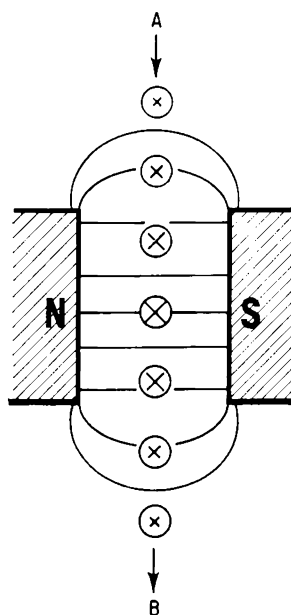

Fig. 140
If a wire is pushed down through a magnetic field from A to B as shown in Fig. 140, the electrons in the wire are moving, on the average, at right angles to the field lines. Successive positions of the wire are indicated. We have already seen that whenever electrons move across a magnetic field a *force* is exerted on them. This force on the electrons acts at right angles to the field (NS) and at right angles to the movement of the wire (AB). In Fig. 140 the electrons are pushed into the paper, that is, along the wire. The size of each cross represents the magnitude of the induced e.m.f. If this wire is part of a complete electrical circuit, a current will flow.